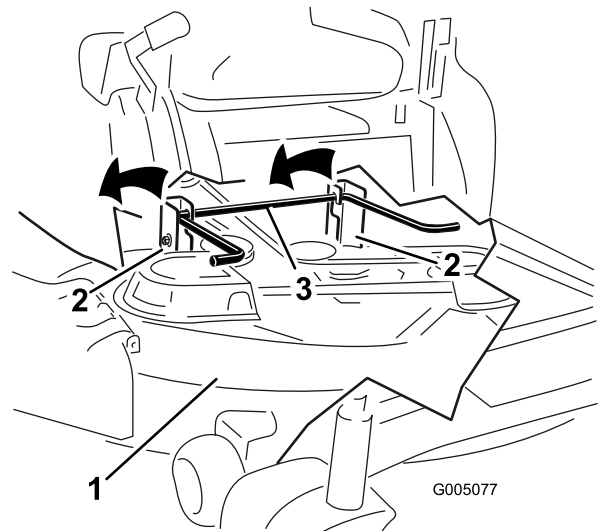

Figure 57
6. Lift the mower deck and hanger brackets clear of the rear lift rod and lower the mower carefully to the ground (Figure 57).
5. Lift the rear of the mower deck and guide the hanger brackets over the rear lift rod (Figure 57).